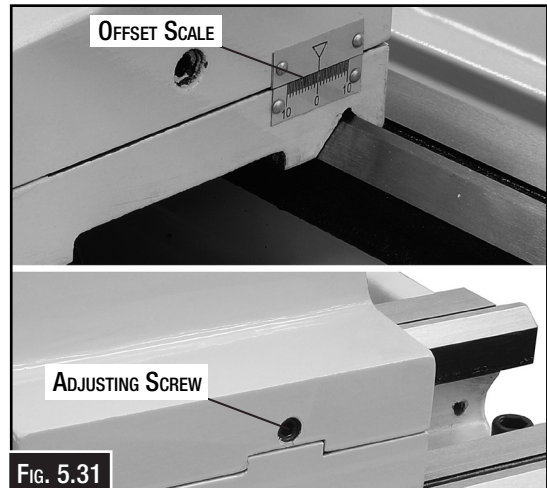

Fig. 5.31
By offsetting the tailstock, the dead center can hold a workpiece off centre from the spindle centerline so tapers and pipe threads can be cut. An offset scale (Fig. 5.31) with increments is located at the rear of the tailstock. However, to achieve exact taper angles, or to adjust the tailstock back into the spindle centerline, angle gauges and a test indicator must be used.
2. Using a hex wrench loosen one of the front or rear adjustment screws shown in Fig. 5.31.